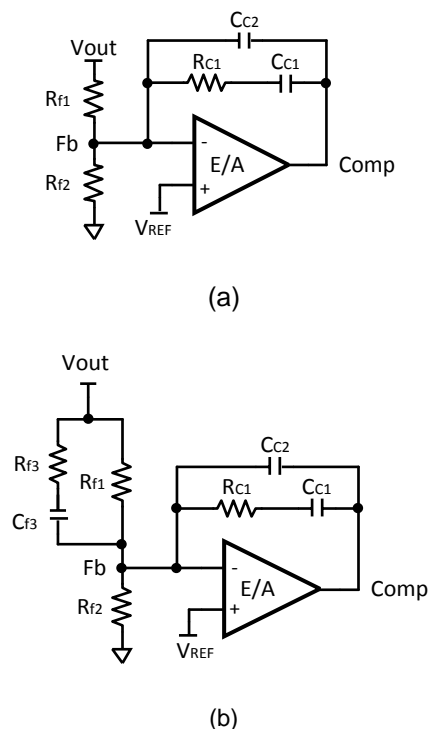

Figure 5: Loop Compensator (a) Type II, (b) Type III
Two types of compensators are commonly used: Type II (PI) and Type III (PID), as shown in Figure 5. The selection of the compensation type is dependent on the ESR of the output capacitors. Electrolytic capacitors have relatively higher ESR. If the ESR pole is located at the frequency lower than the cross-over frequency, F_C , the ESR pole will help to boost the phase margin. Thus a type II compensator can be used. For the output capacitors with lower ESR such as ceramic capacitors, type III compensation is often desired.